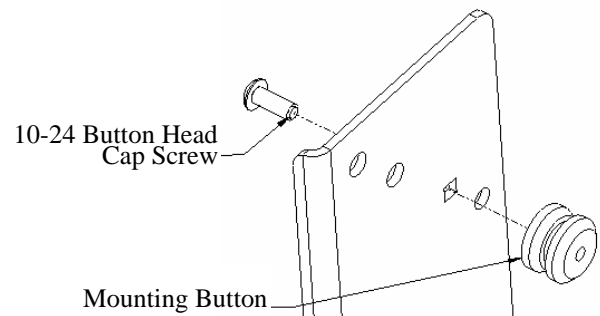
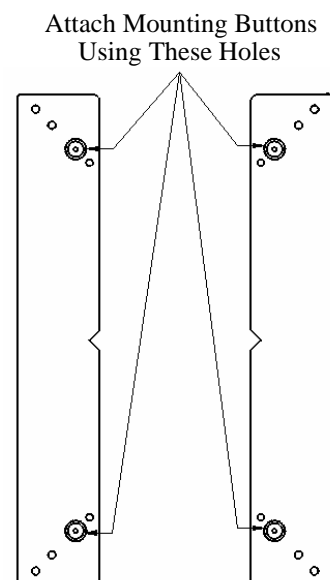

Figure 2. Mounting Button Attachment
Figure 3. Mounting Button Location
1. Using a 10-24 button head cap screw inserted from the back side of the bracket, secure the mounting button, with chamfered hole of mounting button (larger surface) facing the bracket, to bracket (four places) (see Figure 2 and Figure 3).